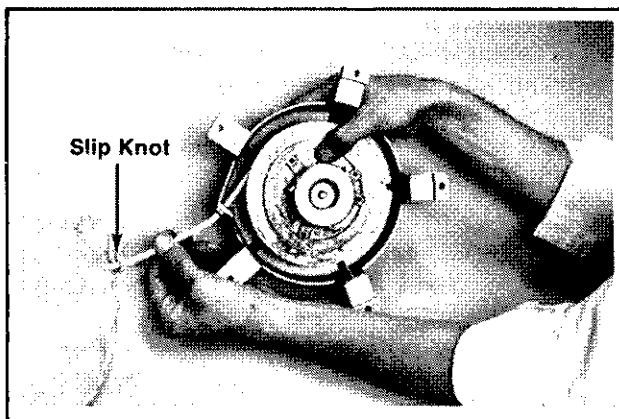

Figure 7-22. Winding Rope Onto Pulley.
17. Hold the pulley firmly with thumbs and allow the pulley to rotate **slowly** until the slip knot reaches the rope guide bushing of housing. Refer to Figure 7-22.